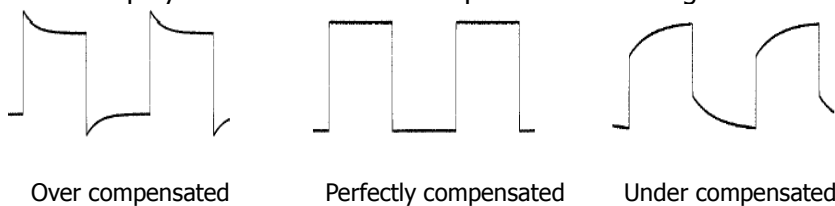

Figure 1-10 Probe Compensation
- Check the displayed waveforms and compare them with Figure 1-10.